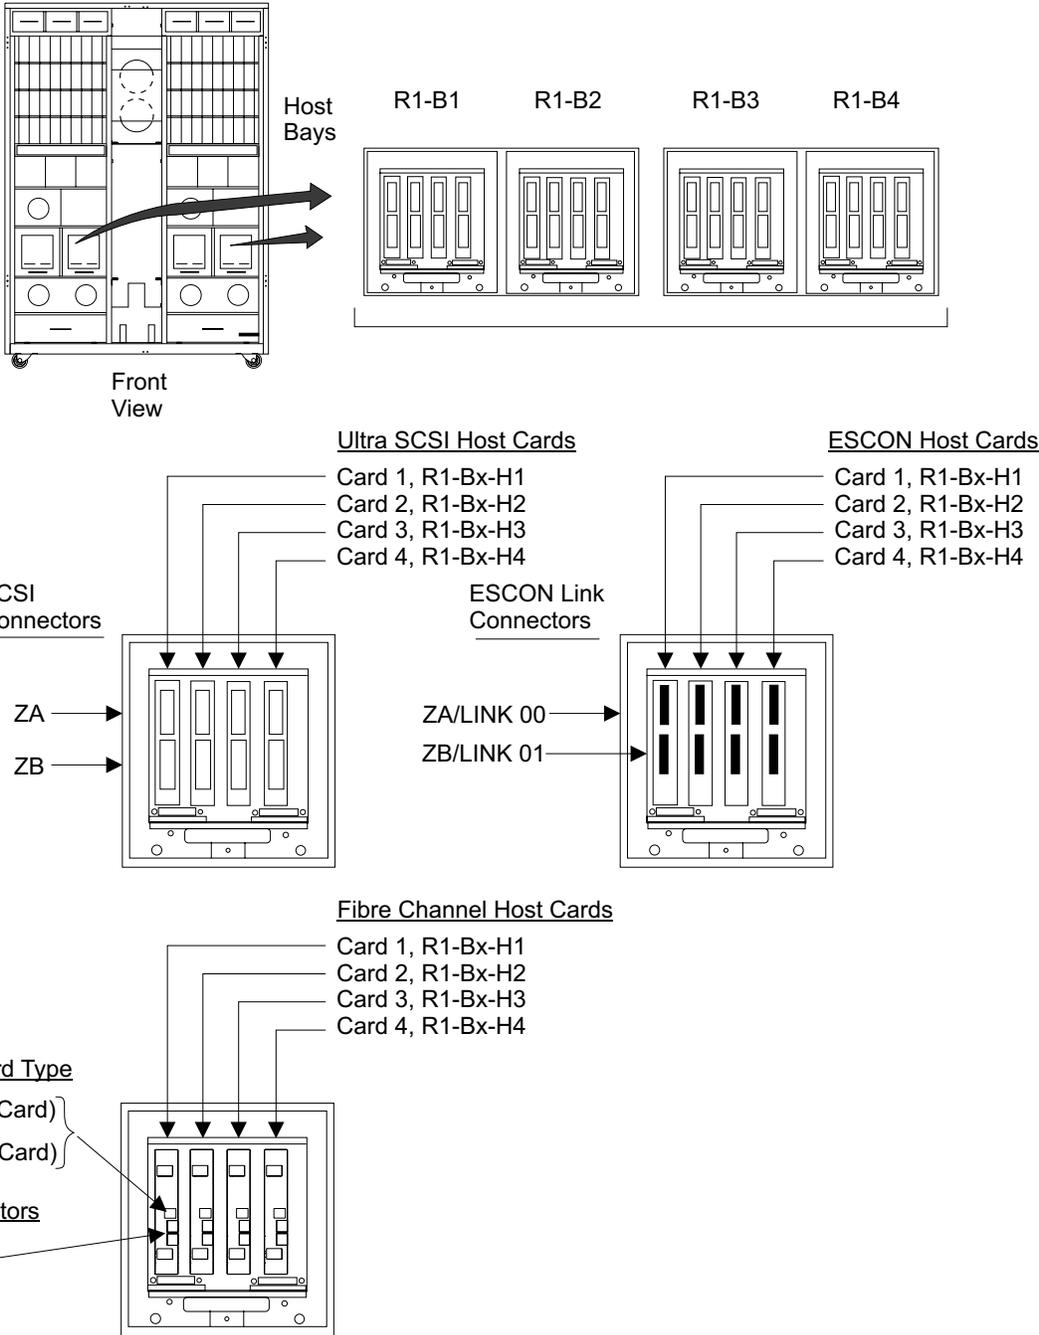

Figure 354. 2105 Model E20/F20 Host Bay Connector Locations (S008024r)
- ___ 7. At the front of the 2105 Model E20/F20, disconnect all of the SCSI, ESCON, or Fibre channel host cables from the host bay, see Figure 354 on page 361.